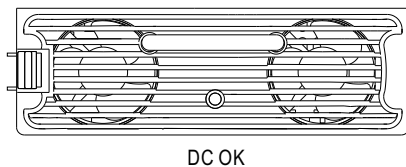

Figure 3-3: Front panel of RCP-2000
- ⊙ When DC output voltage $\geq 80\pm 5\%$ of the rated value, the green LED on the front panel will light up (see Figure 3-3). In the mean time, there will be a "Low" signal (0~0.5V) between "DC-OK" and "GND-AUX" on CN500 connector.